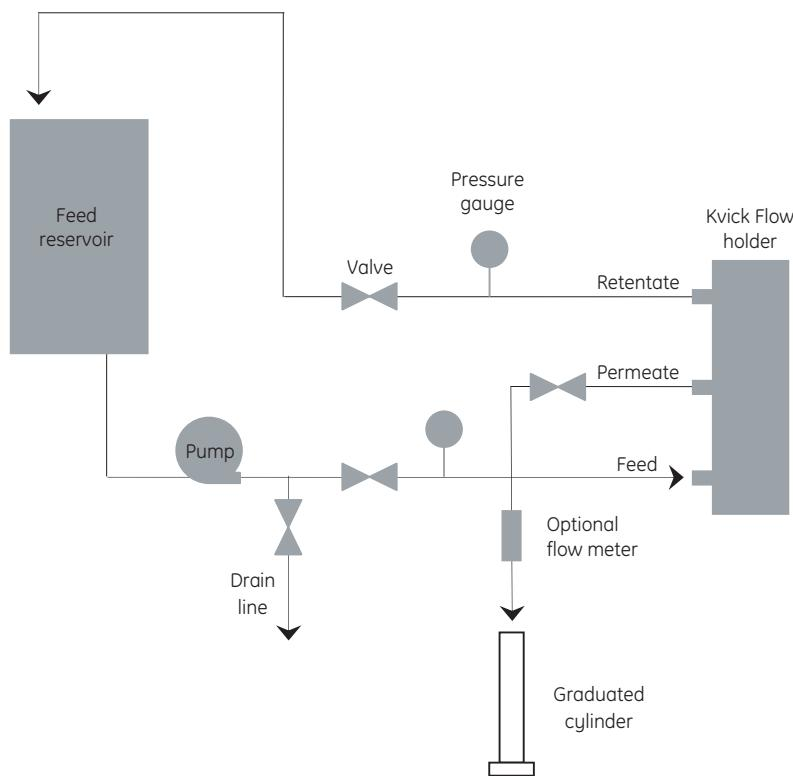

Fig 11. Typical configuration for measuring water flux
- 2 Setup your cross-flow system to circulate the retentate and permeate back to the feed reservoir (Fig 11).
- 4 Fill the 250-ml graduated cylinder with water and place it inverted in the 1,000-ml beaker half filled with water. Connect flexible tubing to the permeate outlet (Fig 11).